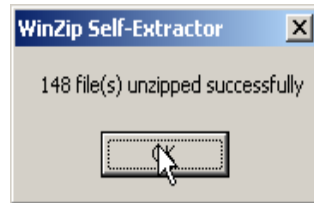

Figure 2-21 Drivers unpacked
3. After the extract of the system driver completes successfully click the OK button to confirm the completion of the extract as shown in Figure 2-21.